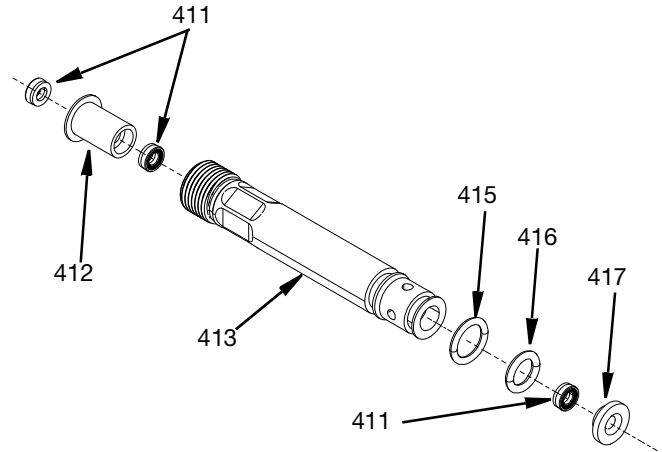

FIG. 30
1. Install O-rings (415) then (416) onto the short bearing seal guide (413) and the long bearing seal guide (414).
2. Install one needle packing seal (411) into the short and long bearing seal guides (413 and 414) O-ring end. Open spring side of needle packing seals need to face outwards.
3. Press the lower bearing (417) into the O-ring end of the short and long bearing seal guides (413 and 414).
4. Insert two needle packing seals (411) into each upper bearing (412). Open spring side of needle packing seals need to face outwards on either side of the upper bearing. Insert this assembly into the threaded end of the bearing seal guides (413 and 414). See FIG. 30.
NOTE: FIG. 30 shows a short seal bearing guide (413) however both long and short guides are assembled the same.